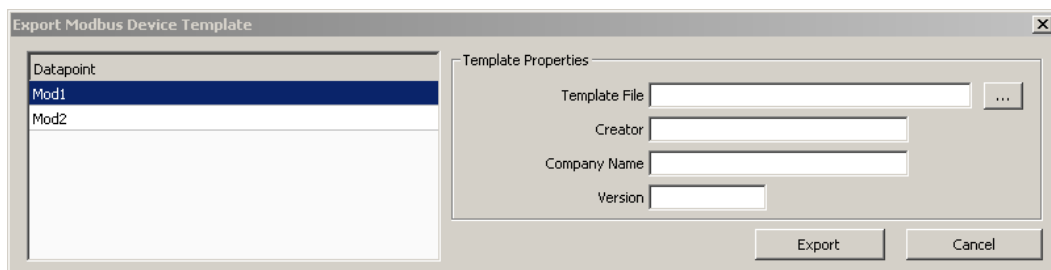

Figure 147 Export Modbus Device Template dialog.
3. Press the **Export Device Templ.** button. This opens the **Export Modbus Device Template** dialog shown in Figure 147. The list on the left side of the dialog shows the names of the data points which are exported to the template.
2. This opens the **Export Modbus Device Template** dialog as shown in Figure 147. Proceed as described above.